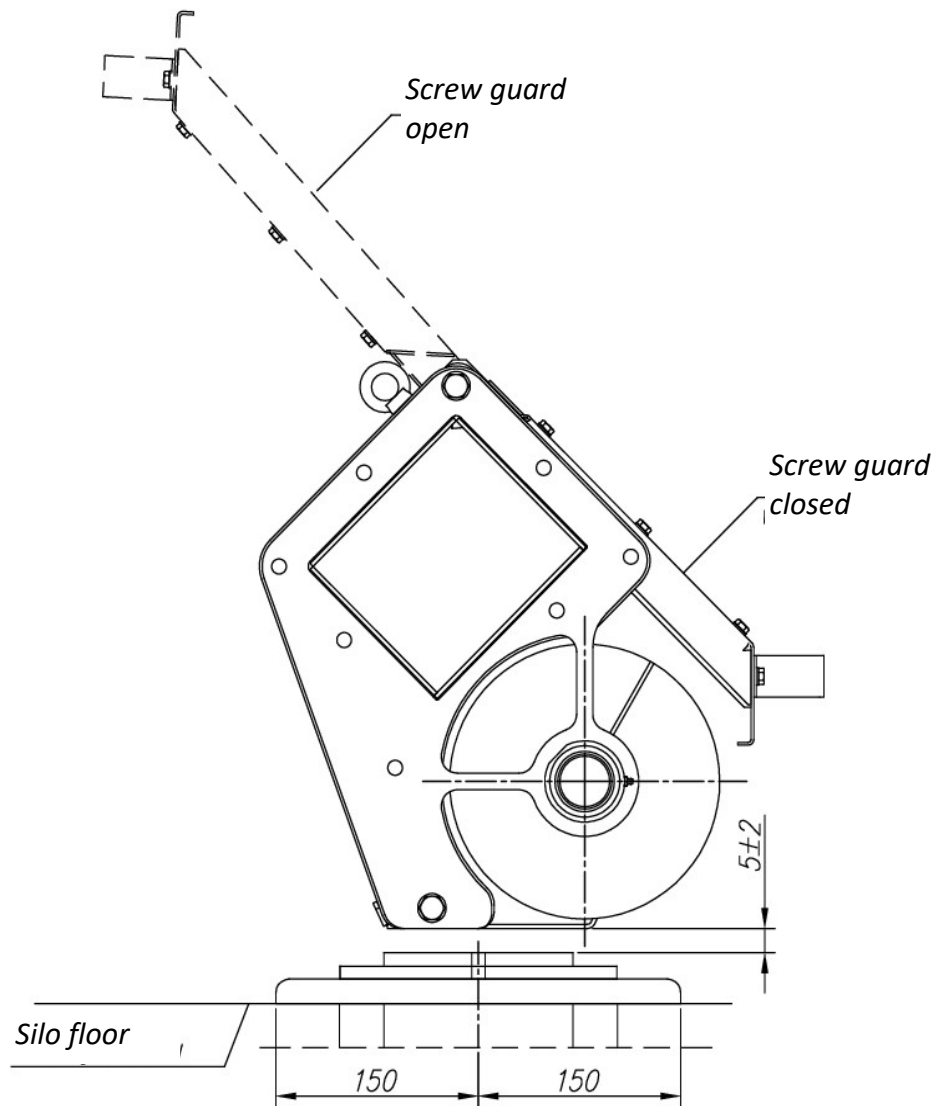

Figure 10. The body support setup. The screw guard position.
- After installation and correct setting of the PSWEX conveyor in the silo, body supports (Figure 1, Item 4 and Item 5) need to be installed, with their location and distance to the body flanges (Figure 10) maintained.
- 1.12 Stop all devices and secure the main switch against unintended activation. Close the central inlet. Enter the silo, lift the screw guards Figure 10. Unlock the lock (Figure 1, detail "D") installed at the wheel. If necessary, move the conveyor to place the wheel on the track.